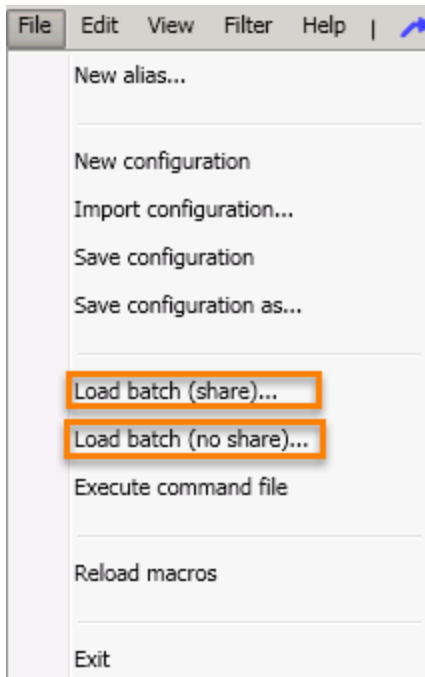

Figure 6: Load a Batch File from the File Menu
1. Select **Load batch (share)** or **Load batch (no share)** from the file drop-down list as highlighted in Figure 6.